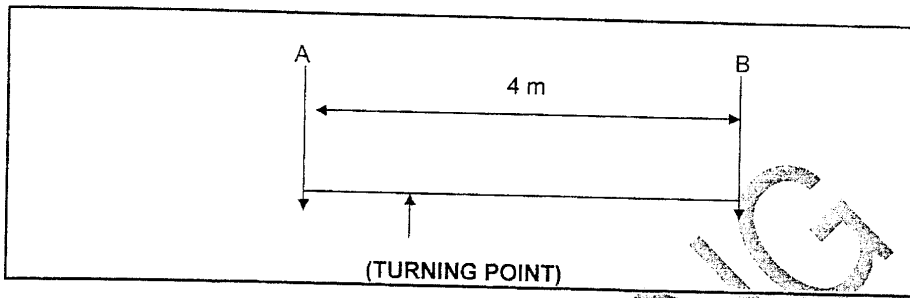

FIGURE 1
- 4.2 A lever which can turn freely about the turning point is shown in FIGURE 1, on the ADDENDUM (attached). The lever is in equilibrium.